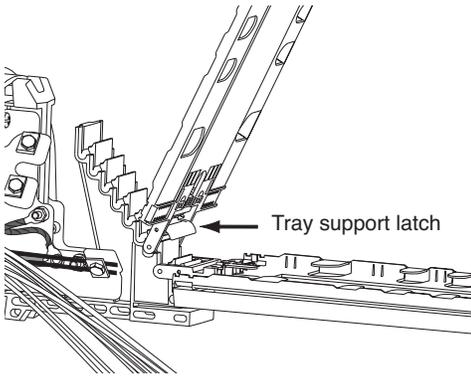

Figure 22
1. If multiple trays are present, fill the bottom tray first. Use the tray support attached to the bottom of the second tray to hold it out of the way. (Figure 22)